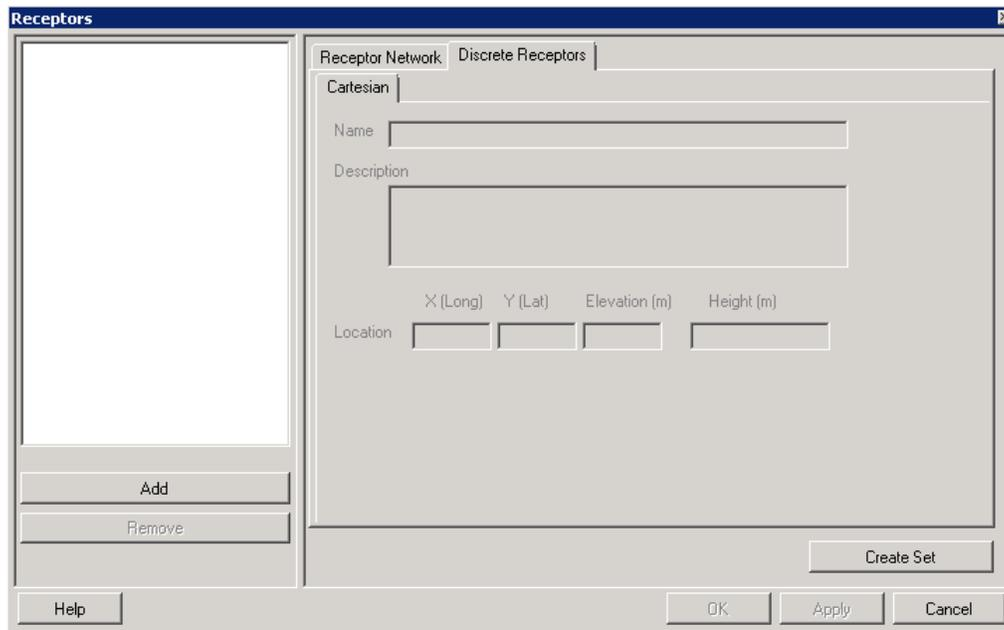

Figure 5-23 Receptors Dialog Box – Discrete Receptors Tab
- A discrete receptor is a single point (latitude/longitude), see Figure 5-23. An example is a noise-sensitive dwelling like a school or historic property. The user defines the receptor location by filling in the following fields: